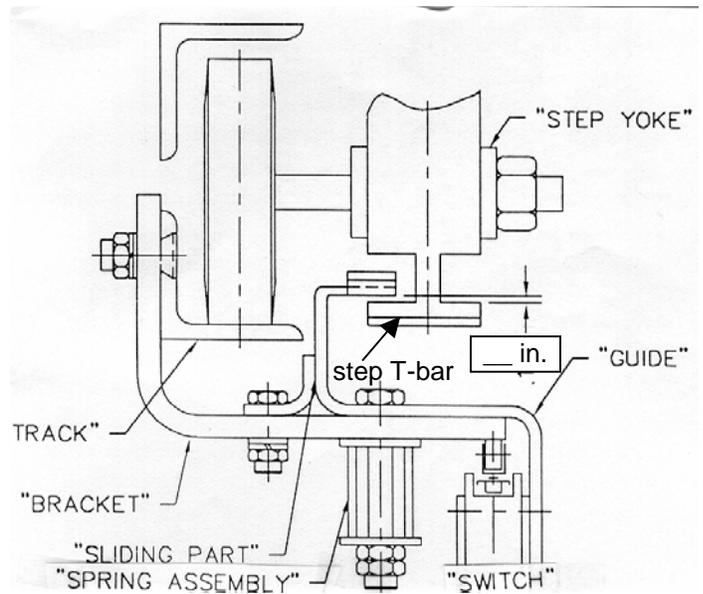

Figure 8-10k Fujitec LH Upthrust Safety Device
43. What is the gap between the step T-bar and the guide in figure 8-10k?
44. What maintenance is required for the sliding part of figure 8-10k?